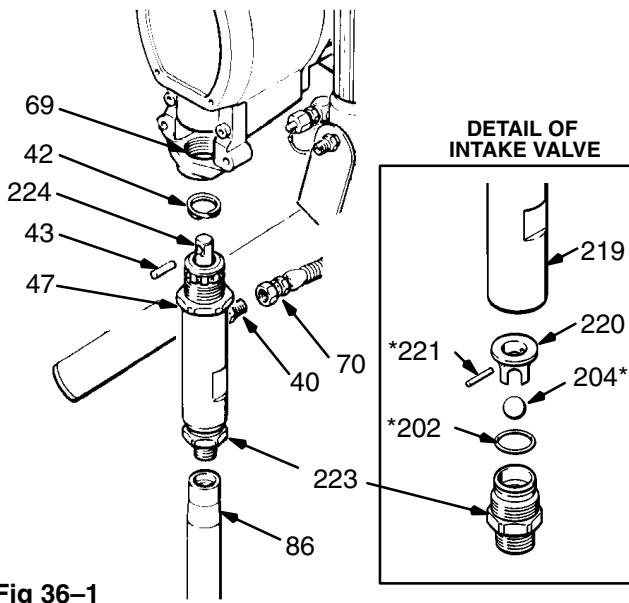

Fig 36-1
Removing the Pump Refer to Fig 36-1.
1. Unscrew the intake valve (223) from the cylinder (219). Remove the o-ring (202), ball guide (220), stop pin (221) and ball (204) from the valve. Refer to Fig 36-1.